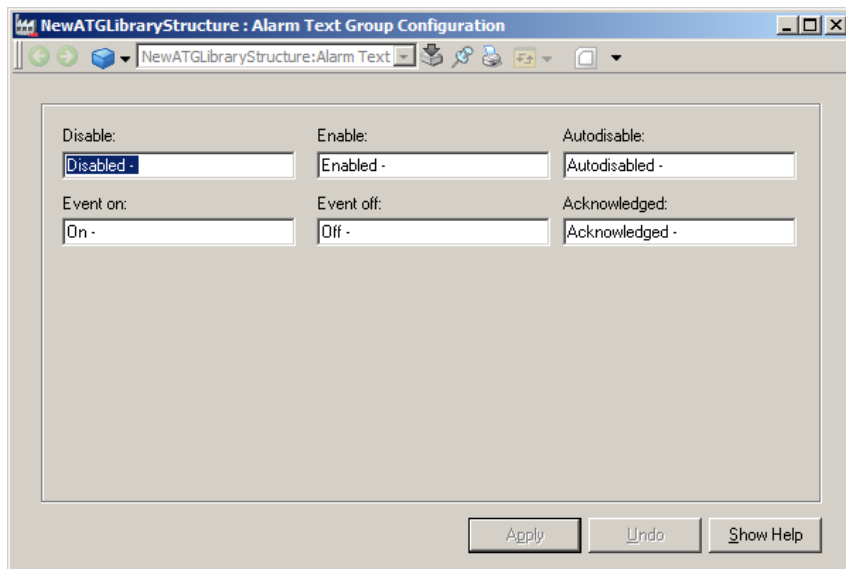

Figure 36. Alarm Text Group Configuration aspect.
3. In the Aspect List area, select Alarm Text Group Configuration aspect as shown in Figure 36.